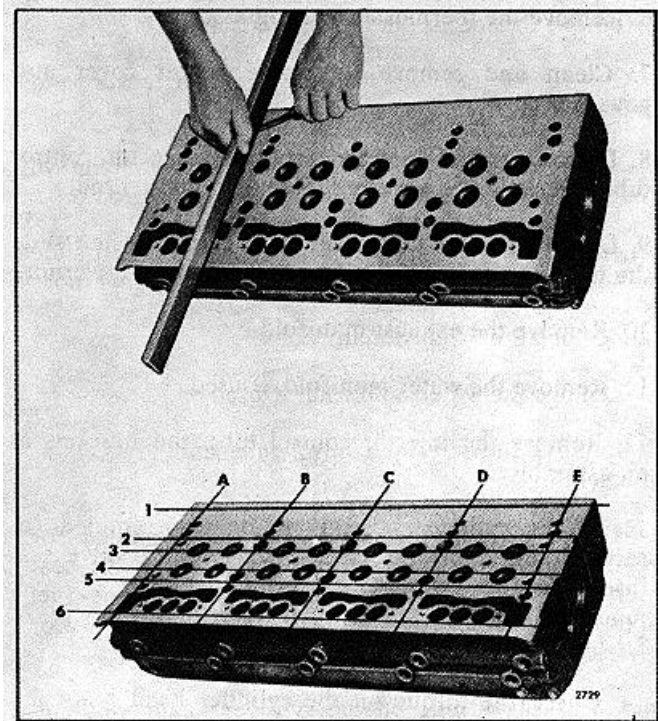

FIG. 12 - Checking Bottom Face of Cylinder Head
- a. Use a heavy, accurate straight-edge and feeler gages, tool J 3172, to check for transverse warpage at each end and between all cylinders. Also check for longitudinal warpage in six places as shown in Fig. 12. Refer to Table I for maximum allowable warpage.